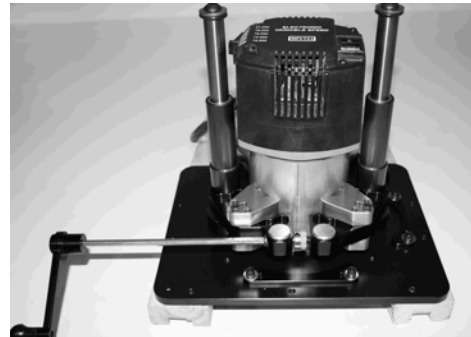

Figure 7
8. With the Mast-R-Lift™ II Crank handle, re-tighten the tensioning cap screw. (Figure 7)